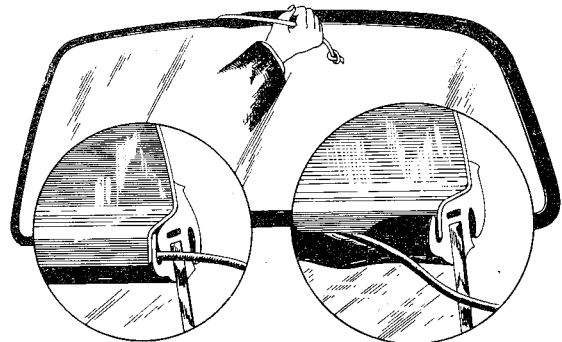

Fig. 8-36. Fitting rear window
3. Place the rear window in position with the rubber strip fitted. Wearing working gloves, carefully strike the rear window a few blows with the palm of the hand so that it makes good contact all round. Then carefully pull out the cord from inside. This will cause the rubber strip to "creep" over the sheet metal edge as shown in Fig. 8-36. It may sometimes be necessary to adjust the position of the rear window with the palm of the hand. If the cord is difficult to pull out, this may damage the strip, in which case the rear window should be struck from inside or outside with the palm of the hand if the rubber strip does not "creep" over the edge of the sheet metal properly.